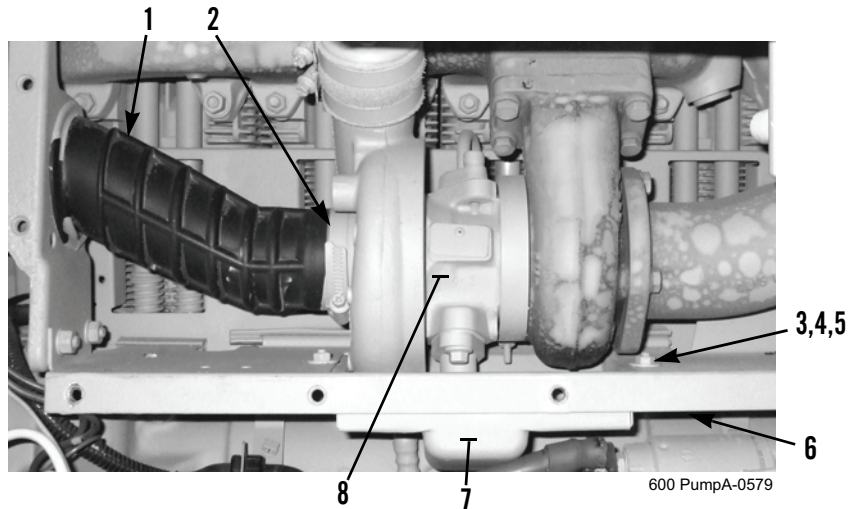

Figure 1. Turbocharger.
1. Loosen clamp (Figure 1, Item 2) and remove intake elbow (Figure 1, Item 1) from turbocharger (Figure 1, Item 8).
2. Remove two nuts (Figure 1, Item 3), bolts (Figure 1, Item 4), four washers (Figure 1, Item 5), and cap (Figure 1, Item 7) from lower cover (Figure 1, Item 6).